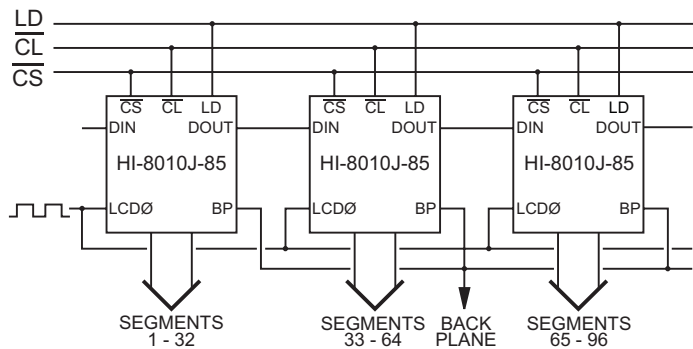
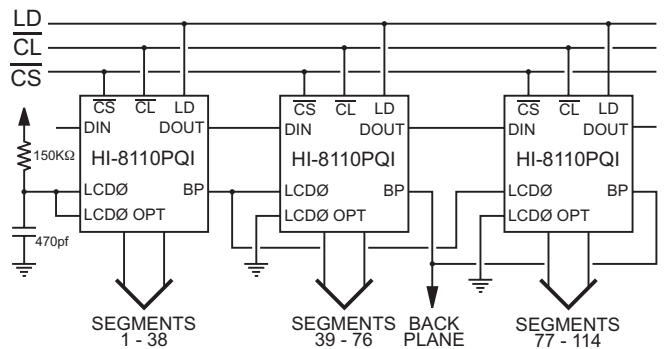

Figure 2
Figure 3
The backplane output functions in 1 of 2 modes; externally driven or self-oscillating. When the LCD0 input is externally driven with the LCD0OPT input open circuit (Figure 2), the backplane output will be in-phase with LCD0. Utilizing the self-oscillating mode, inputs LCD0 and LCD0OPT are tied together and connected to an RC circuit (Figure 3). A 150K $\Omega$  resistor with a 470pF capacitor generates an approximate backplane frequency of 100Hz. The LCD0/LCD0OPT oscillator frequency is divided by 256 to determine the backplane output frequency. The resistor value (R) must be at least 30K $\Omega$  for proper self-oscillator operation.
For displays having a number of segments greater than 38, two or more of the display drivers may be cascaded together by connecting the serial data output (DOUT) from the first driver, to the serial data input (DIN) of the following driver, etc. (See Figures 2 & 3). Data out (DOUT) will change state